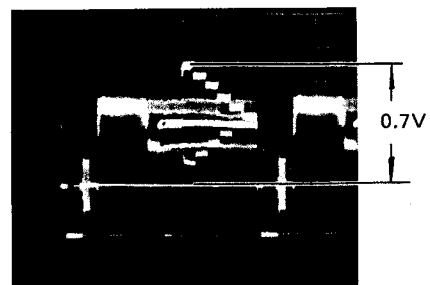

Fig. 5-6-28
- o Trigger the oscilloscope at H rate. (Use TP9 (BL), Deflection board.)
- o Adjust the lens iris so that the video output level is 0.7V. (Fig. 5-6-28)